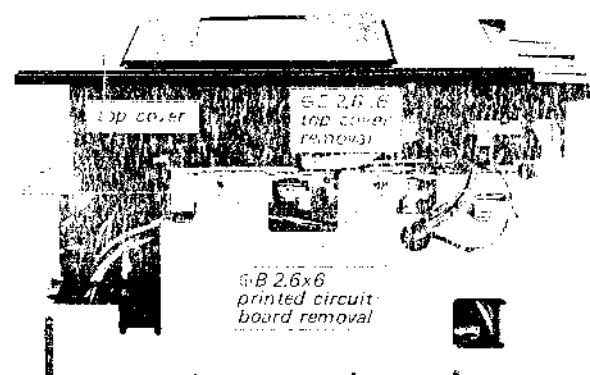
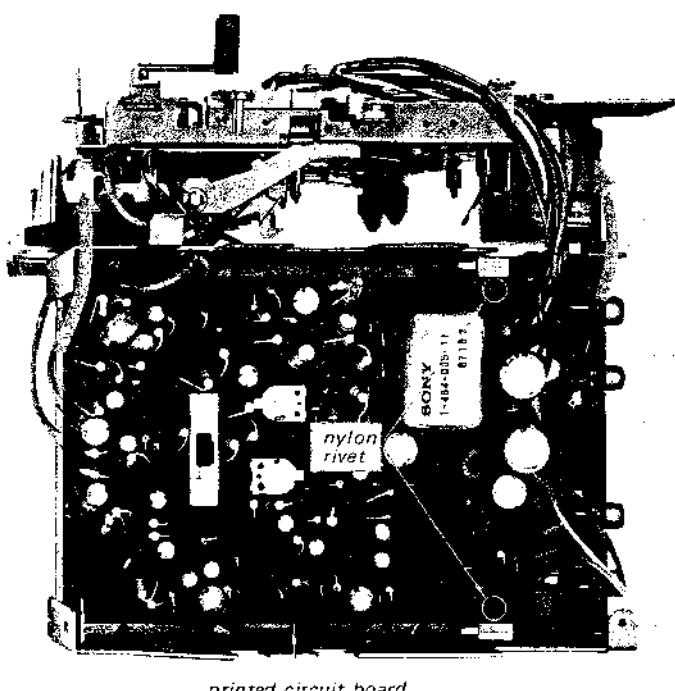

Fig. 2-7. Top cover removal
Fig. 2-9. Printed circuit board removal
3. Remove the screw ($\oplus B\ 2.6\times 6$) securing the top cover to the chassis as shown in Fig. 2-7.
3. Remove the two screws (\oplus B 2.6x6) as shown in Fig. 2-7. This frees the mechanism as shown in Fig. 2-9.
4. Remove the two nylon rivets securing the printed circuit board to the chassis as shown in Fig. 2-9 (Refer to Procedure 2-8 on page 10). This frees the printed circuit board.